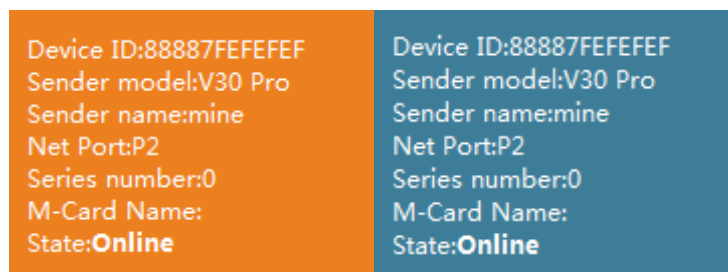

Figure 7-2-2 Multifunctional Card Information
(2) The information of added multifunctional card is displayed as follows: orange is the selected color, and blue is the unselected color, as shown in Figure 7-2-2.